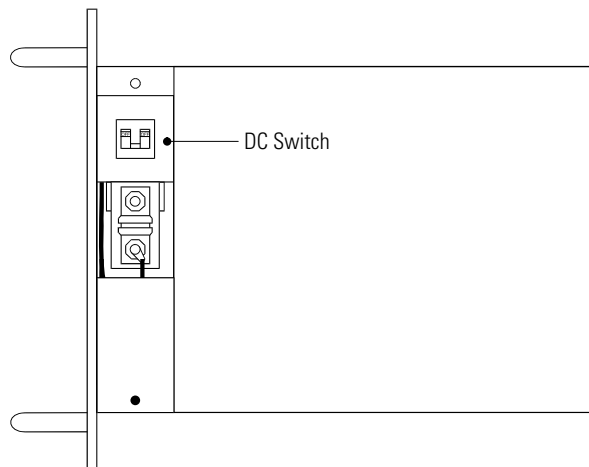

Figure 19. RBC-3 DC Switch
1. Verify that the RBC-3 DC switch is in the OFF position (see Figure 19).